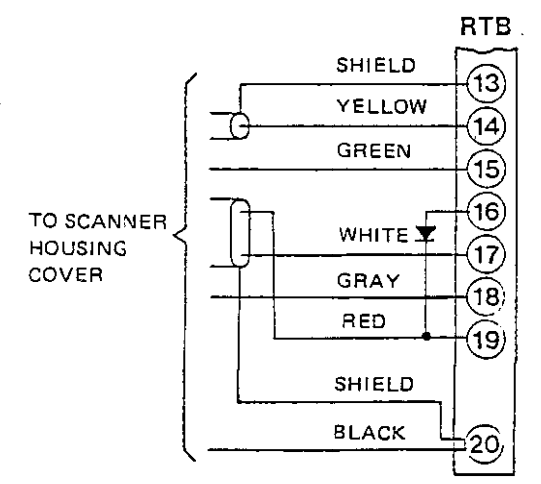

Fig.1-8
- a. Six lead wires run from the scanner housing cover to terminal board RTB on the bottom of the scanner housing. Connect them as shown in Fig.1-8.